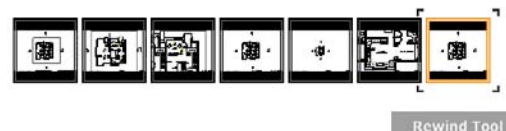

Figure 2.7
3. Move your mouse pointer over the rewind strips (Figure 2.7). Revit will change the zoom or pan location. When you find the view that you desire, click, and you are returned to the steering wheel.